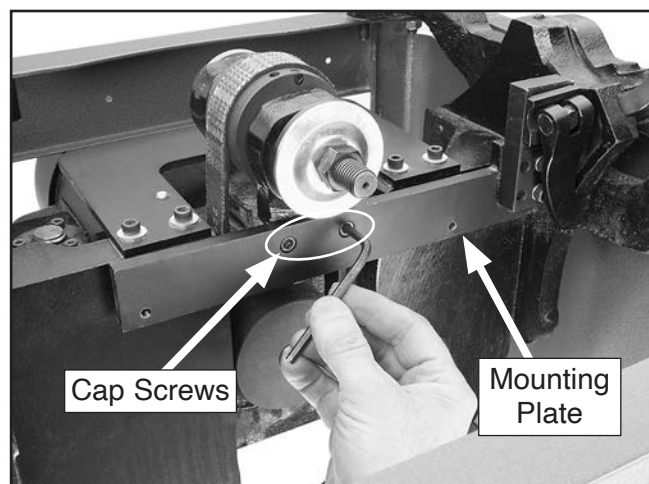

Figure 131. Removing mounting plate.
8. Remove cap screws that secure mounting plate shown in **Figure 131**, then remove plate.